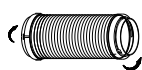
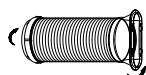

Fig. 18a
Fig. 18b
1. Install the window Exhaust adaptor B onto the exhaust hose as shown in Fig. 18a. or Fig. 18b. Refer to the previous pages for window kit installation.